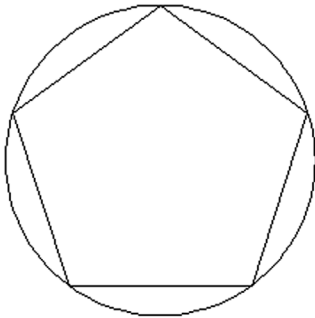

FIGURE 2.18 Results after Step 5.
Step 5. Enter the value 5. A screen shot of the result is in Fig. 2.18.